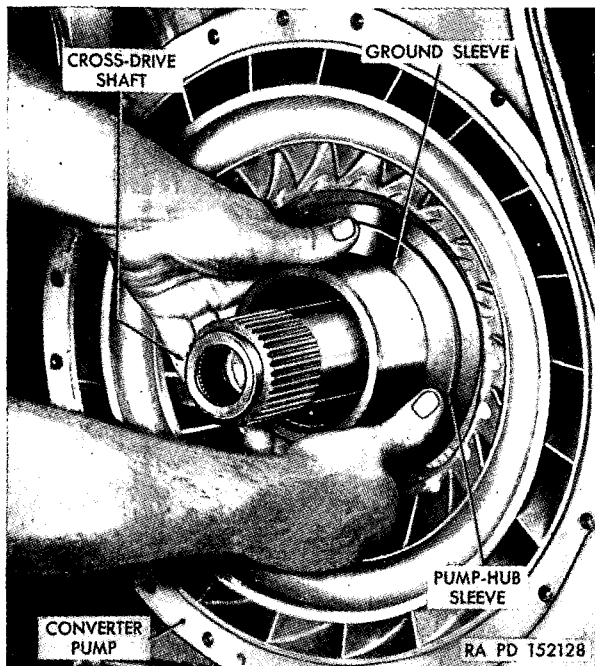

Figure 389. Installing converter pump assembly.
- (3) Install the converter-pump-hub sleeve on the pump hub with the flange of the sleeve on the internal side of the pump. Install the pump and sleeve onto the converter ground sleeve assembly (fig. 389). Press